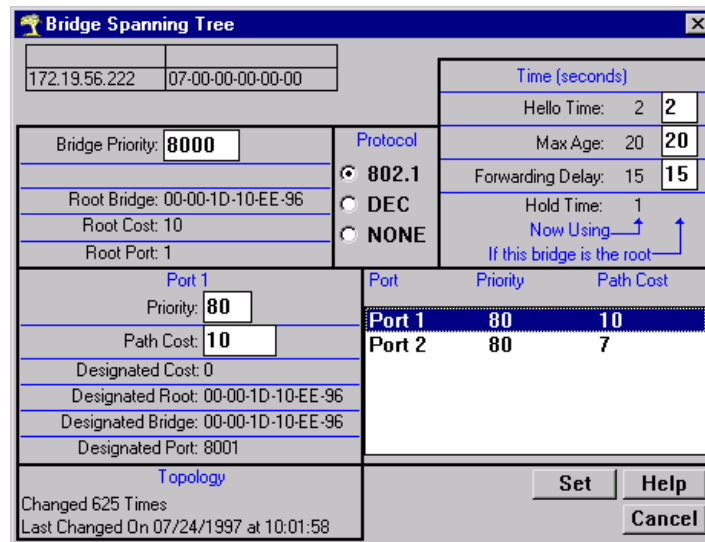

Figure 5-9. Bridge Spanning Tree Window
2. Drag down to **Spanning Tree...**, and release. The Bridge Spanning Tree window, Figure 5-9, will appear.